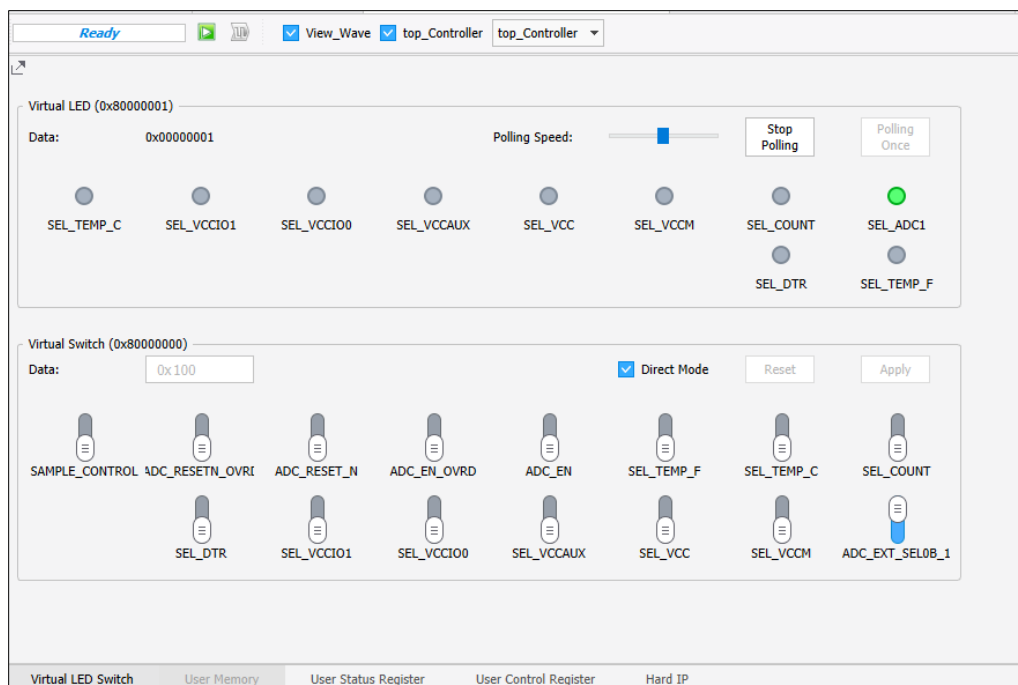

Figure 3.1. Change ADC Selection in Reveal Controller, with ADC1 DP1 and DN1 Inputs Selected
When you open Reveal, do the following in the given order, as shown in Figure 3.1.
- To see the ADC1 input DP1 and DN1 on the 7-segment, select **ADC_EXT_SEL0B1**. Then, you can see the GUI shown in Figure 3.1. LED 0 on the topmost is on and ADC1 is being displayed. ADC1 input comes from J27 pins 9 and 11.